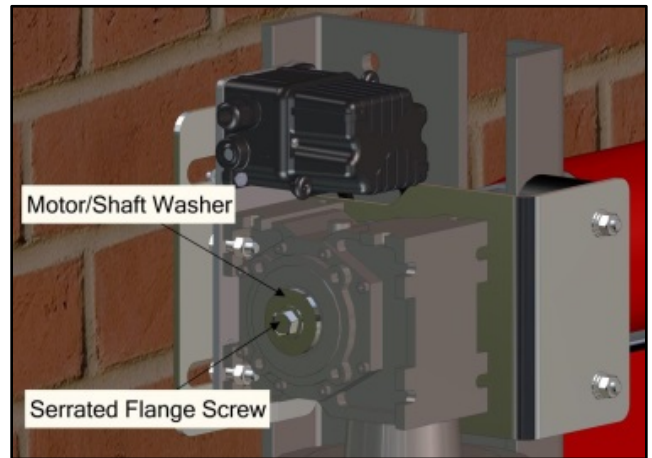

Figure 55
14. Install serrated flange screw and flat washer onto shaft end. (See Figure 55)